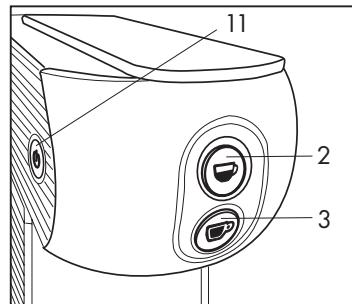

Fig. 11
- Check that there are no capsules in the machine and turn it on with the main switch (11).
- Close the small cup support (10) and place a large empty cup under the dispensing spout (4).
Big cup: Press and hold the button (3). The machine will start delivering water. Once the desired water level is reached release the button (3). The machine will then stop delivering water and the desired quantity will be memorized for future dispensing. (**Fig.11**)
Small cup: Press and hold the button (2). The machine will start delivering water. Once the desired water level is reached release the button (2). The machine will then stop delivering water and the desired quantity will be memorized for future dispensing. (**Fig.11**)